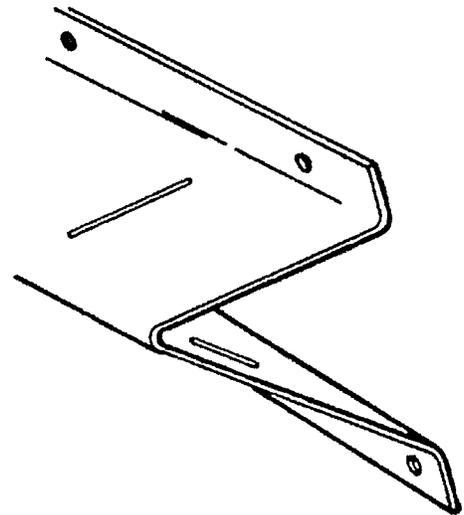

Figure 5-11. Cabinet Angle Bracket
- k. A cabinet angle bracket (Figure 5-11) is used to hold wrenches and other heavy items on the vertical surfaces of "F" and "G" cabinets. It also is used to hold cleco sheet metal holders in holes drilled in the angle panel.